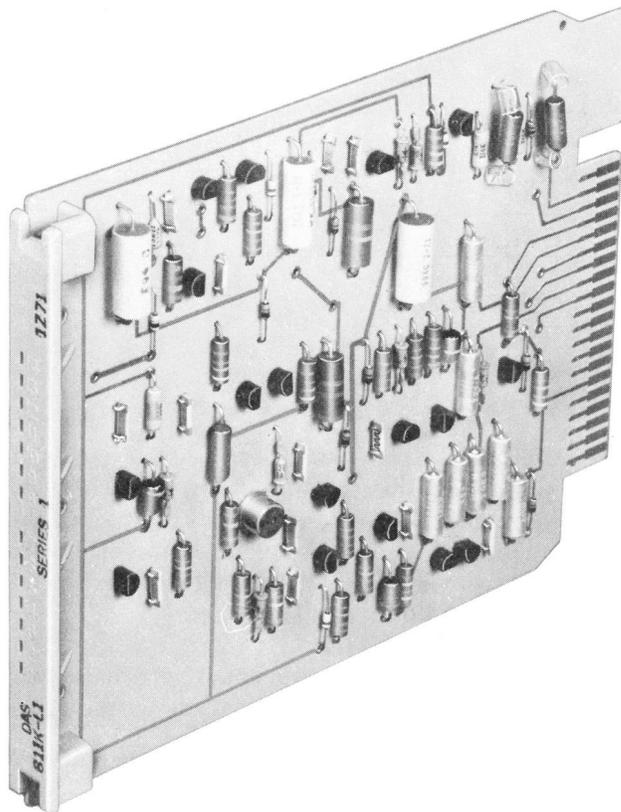

Fig. 1—Data Auxiliary Set 811K
1.01 This section provides a physical and functional description of the Data Auxiliary Set (DAS) 811K-L1 (Fig. 1). In addition, this section provides information on the applications for the DAS 811K-L1. In this section, the DAS 811K-L1 shall be referred to as DAS 811K.